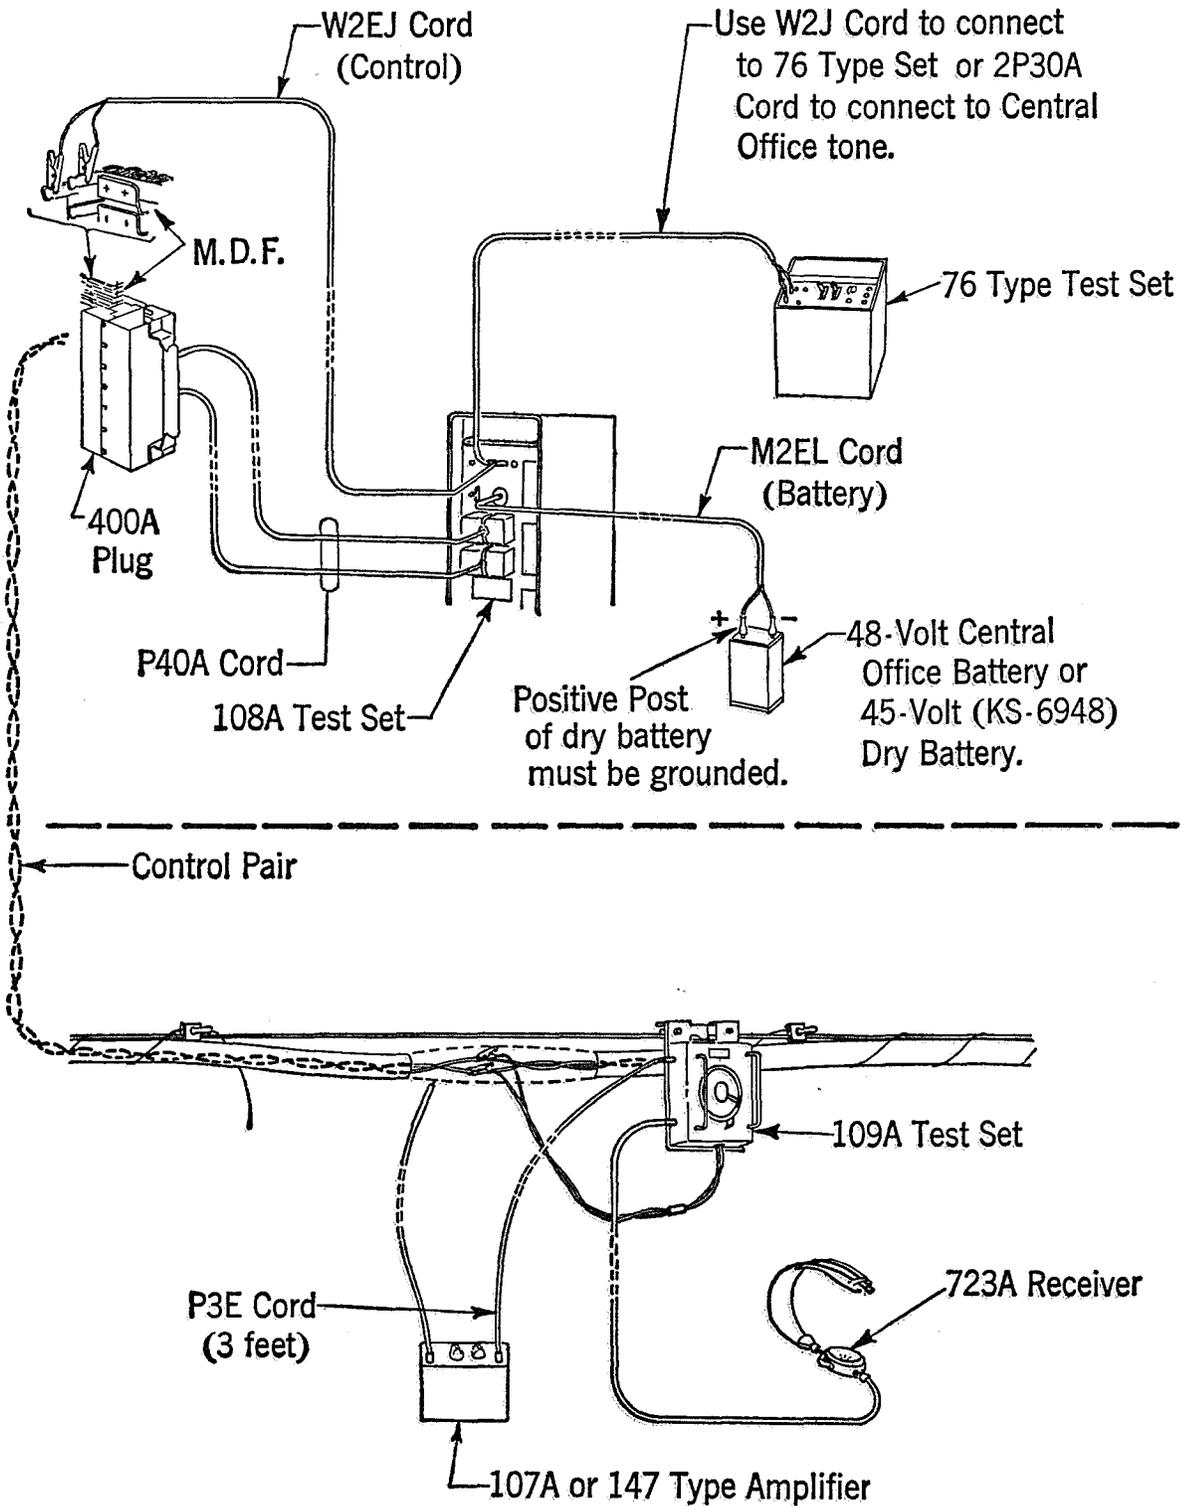

Fig. 1
2.01 The general arrangement of the 108A Test Set in the central office for pairs terminating on protector mountings and the 109A Test Set at the splice is illustrated in Fig. 1.